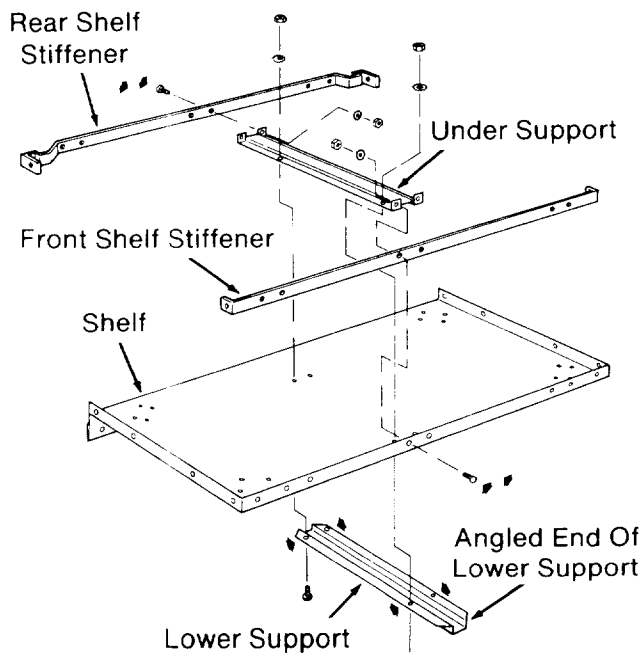

Fig. 47
1. Turn the *shelf* upside down on the floor. The wide edge should point down, and the three narrow edges should point up. (Figure 47)
2. Place the *front shelf stiffener* inside and against the front edge of the *shelf* so that all six holes line up. (Figure 47)
3. Place the *under support* on the *shelf*, so that the two holes on one end line up with the center holes on the other two parts. (Figure 47)
4. Place the *lower support* under the shelf. It should rest directly below the *under support*, with the angled end sticking out. Line up the four holes in these three pieces. (Figure 47)
5. Place the *rear shelf stiffener* on the *shelf* so that the two ends fit between the edges of the *shelf*, and the two center holes line up with the holes at the end of the *under support*. (Figure 47)